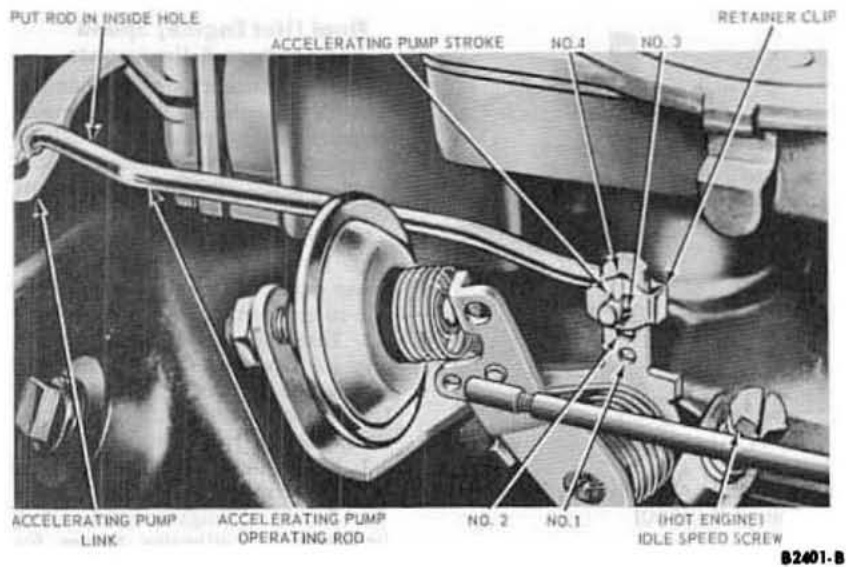

Fig. 15—Accelerating Pump Stroke and Idle (Hot Engine) Speed Adjustments—Typical for Ford 2-V
The primary throttle shaft lever (overtravel lever) has 4 holes and the accelerating pump link has 2 holes (Fig. 15) to control the accelerating pump stroke for various ambient temperatures and operating conditions of the engine.
The accelerating pump operating rod should be in the specified hole in the overtravel lever and the inboard hole (hole closest to the pump plunger) in the accelerating pump link (Fig. 15). (Refer to Group 10 of the appropriate Shop Manual for specifications.)
The idle fuel mixture and idle (hot engine) speed adjustment screws for the Ford 2-V carburetors are shown in Figs. 15 and 16.
1. Adjust the engine idle speed to specifications by turning the engine idle speed screw (Fig. 15) inward to increase the speed or outward to decrease the speed. (Refer to Group 10 of the appropriate Shop Manual for specifications.)